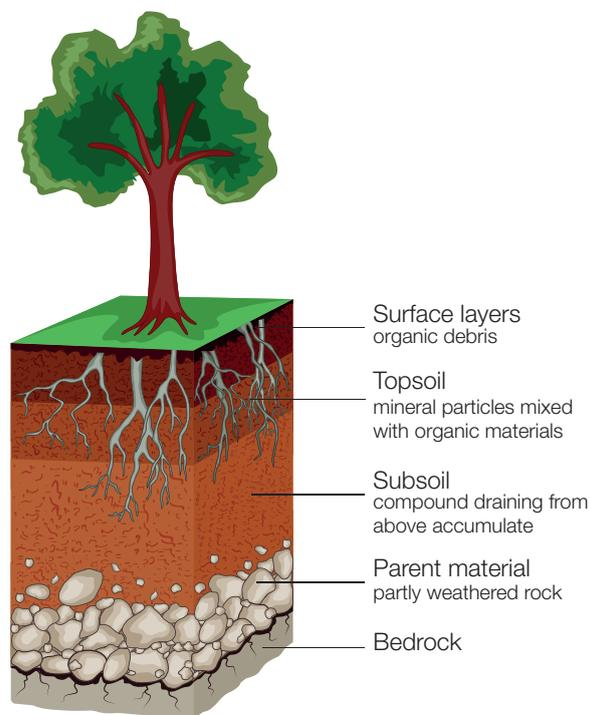

Figure 4.3.1: Layers of soil.
**Soils** are complex mixtures of inorganic and organic materials. Soils vary greatly in their chemical and physical composition, depending on the region and geology. Soils are formed from the weathering of rocks, the leaching of minerals, and the decomposition of organic matter. Soil provides the structural support, water and nutrients for most plants. Soils are composed of different layers (Figure 4.3.1).